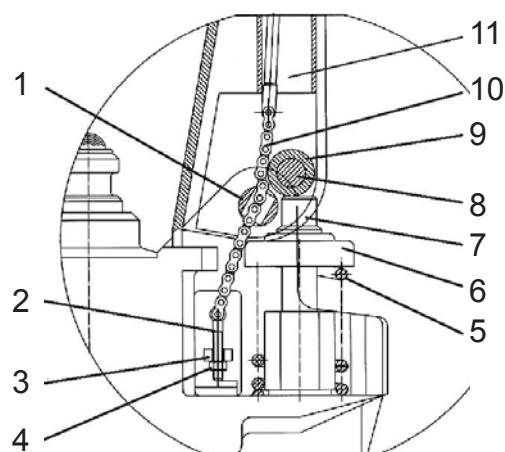

Fig. 7 Side view
- b) Set the control lever of the handle to the 'LOWER' position, then pass the adjusting nut, adjusting bolt through the hole of the axle with your hand (Fig. 7).